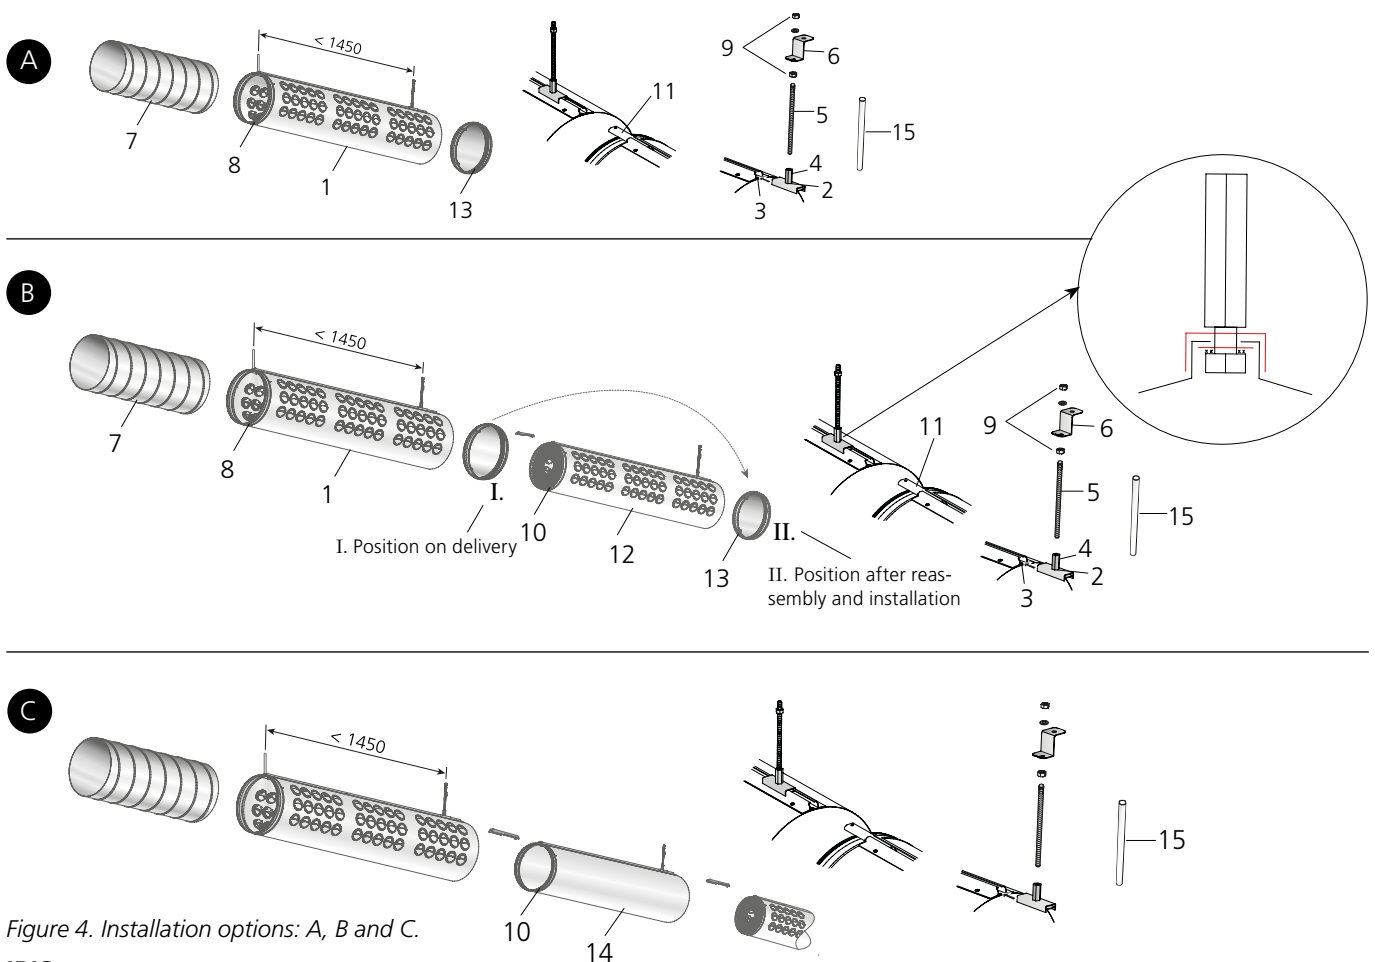

Figure 4. Installation options: A, B and C.
- Install the inactive IBIS D duct sections (14) in the same way as the duct air diffuser sections with nozzles. Note the use of supplied joints (8) and distribution joints (10) included in the supply.
- Position on delivery **I** and **II** Position after reassembly and installation. The end cap (13) is supplied mounted in the first section. Move the end cap to the last section if IBIS 3000 and IBIS 4500 are supplied., See Phase B in Figure 4.